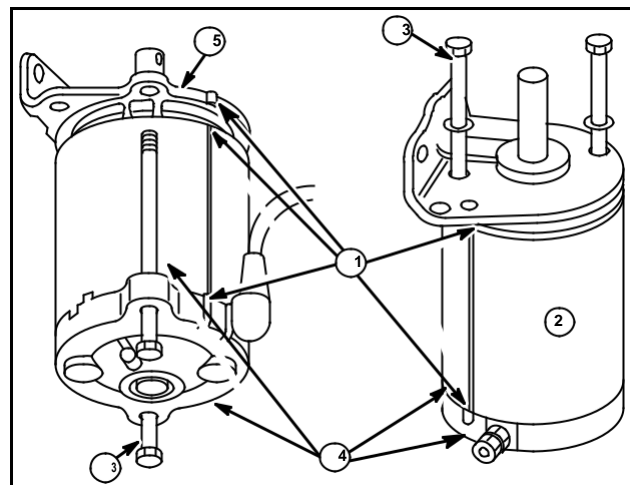

Fig. 76
1. Mark drive end cap at seam on housing. Remove thru bolts (3), noting position of bolts and match marks (1) for reassembly. Hold housing and cap together (4), Fig. 76.
2. The drive head end (5) may now be removed. Inspect bushing for wear. If worn, replace drive head end assembly.
2. Match alignment marks, Fig. 76.